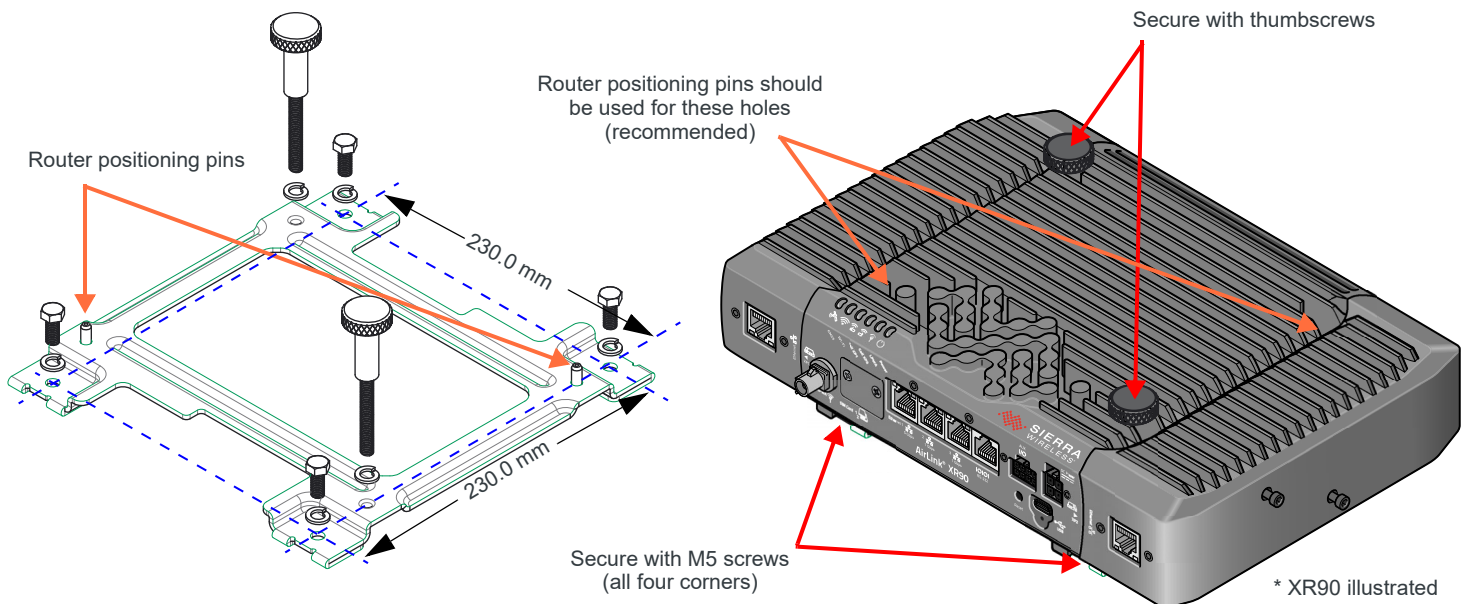

Figure 2-6: XR80/XR90 Bracket Mounting Installation Example
3. Position the XR router on the bracket—the bracket’s positioning pins fit into two of the XR router’s mounting holes. For best results, the module should be grounded (see Grounding the Router, below), so use the holes indicated in Figure 2-6 for positioning pins and thumbscrews (one thumbscrew uses the unpainted mounting hole).